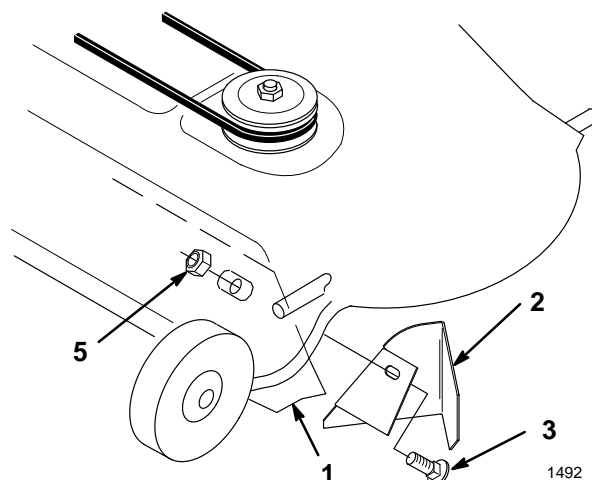

Figure 4
3. On 42" decks, secure with a 3/8 x 1" carriage bolt and 3/8" lock nut (Fig. 4).